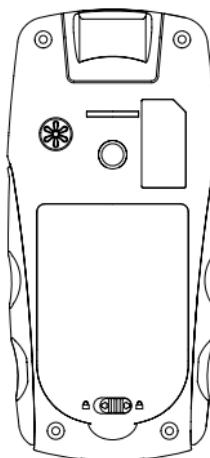

Fig.2-2
- 2) **Batteries installation:** Install 3 AA alkaline batteries or rechargeable batteries lightly as indicated by the polarity signs as shown in Fig.2-2.